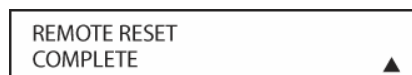

Figure 154
- When the remote has been totally reset and returned to the factory default condition, a REMOTE RESET COMPLETE message will appear (**Figure 154**) briefly, and then the remote will return to normal operation.